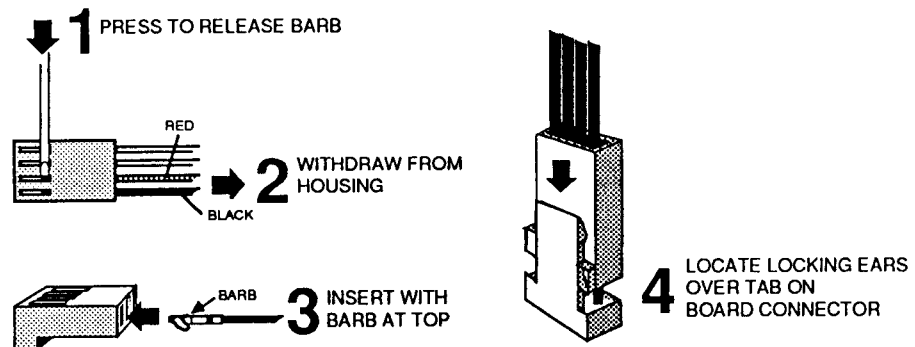

Fig.6 – Removing/inserting LED wires in LED/speaker connector
11. Using a small electrical screwdriver or similar, depress the barbs on the LED wire contacts in the LED/speaker connector (red and black wires) and withdraw the contacts from the connector, noting the polarity of the LED wires (see Fig. 6, steps 1 and 2). Place the old front sub-moulding to one side.
13. Insert the LED wire contacts into the LED/speaker connector so that the barbs on the contacts engage in the slots in the connector housing (see Fig. 6, step 3). Observe correct polarity - make sure that the red and black wires are the correct way round, as shown in Fig. 6, step 2.
17. Plug the LED/speaker connector to PL9 on the main board, ensuring that the locking ears on the connector locate either side of the locking tab on the board-mounted connector (see Fig. 6, step 4).